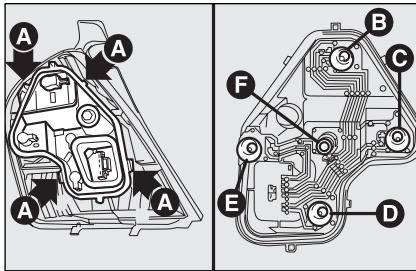

fig. 31
- press lamp holder catches **A**-fig. 31 outwards and remove it;